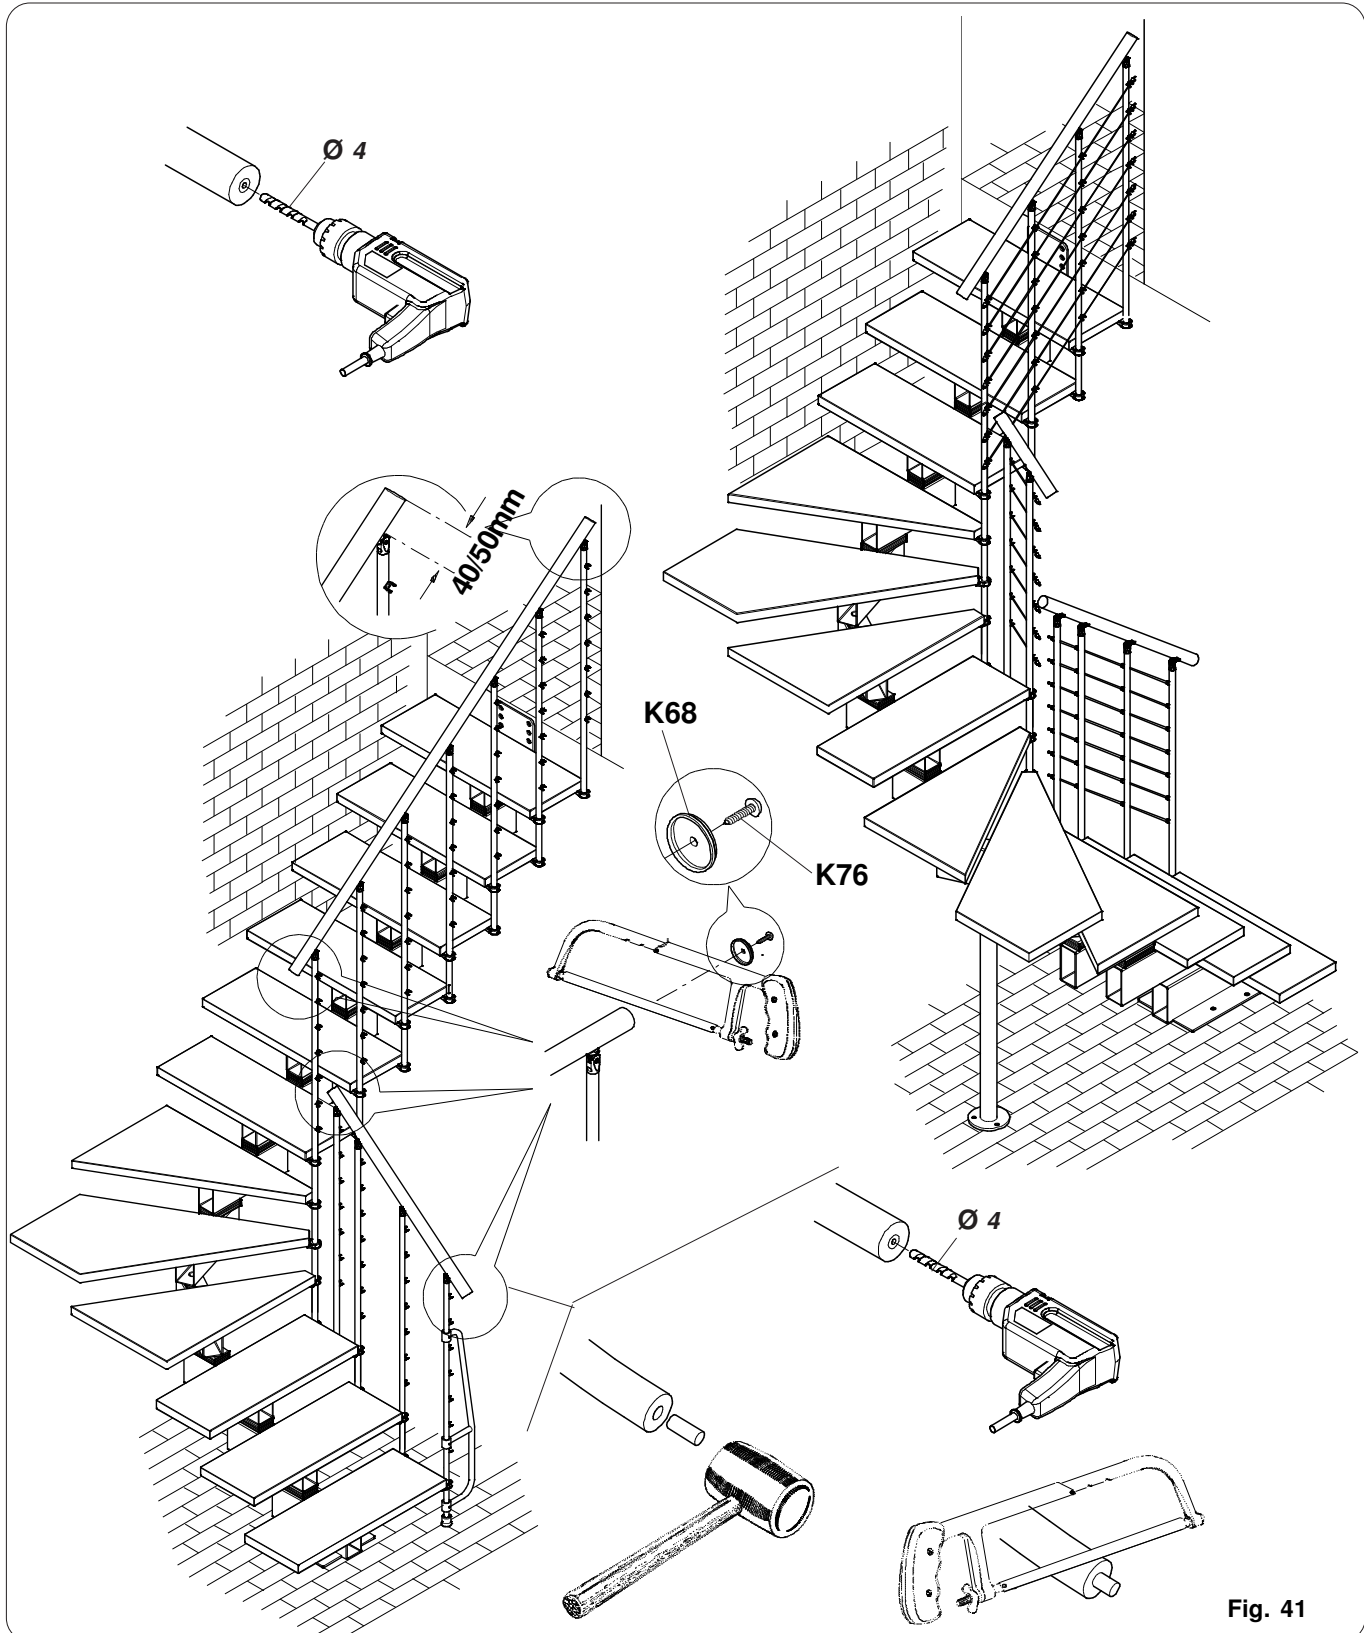

Fig. 41
- All configurations envisage that an additional column must be mounted on the last straight step before the staircase turns. Figure 41 shows the example of a “U” staircase.
- After having assembled the handrail the **K68** plug must be mounted at both ends. Place the plug at one hand and trace the position of the anchoring holes. Drill with a $\varnothing 4$ wood drill and mount the **K68** plug with the relevant **K76** screw (Fig. 41) That operation must be implemented at both ends of the handrail.